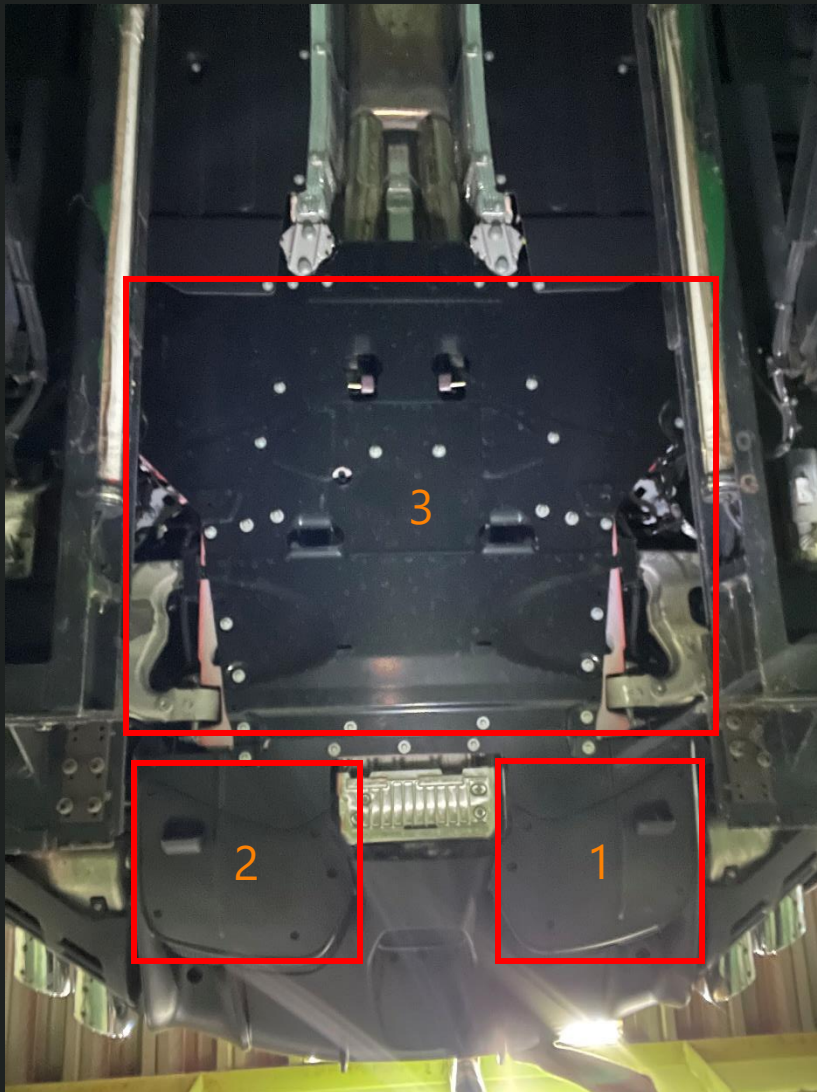

Figure 47
Reinstall the Rear Lower Panel (3) and the Rear Left Lower (1) and Rear Right Lower (2) Plastic Panels(Figure 47).